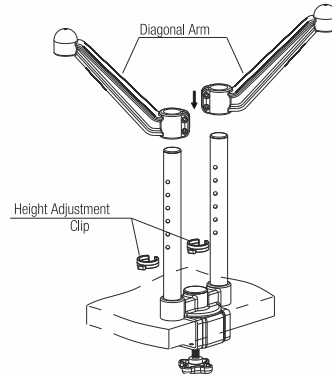

Fig. 2
2. Clip the Height Adjustment Clip onto one of the holes on the Vertical Pole, & slide the Diagonal arm onto the pole from top till the bottom face of the arm rests on the Height Adjustment Clip, as shown in Fig.2.